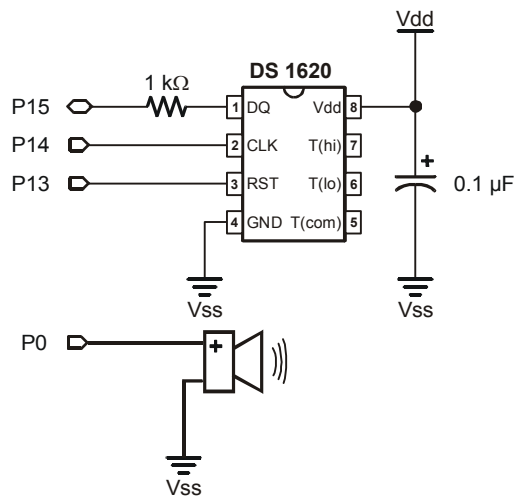
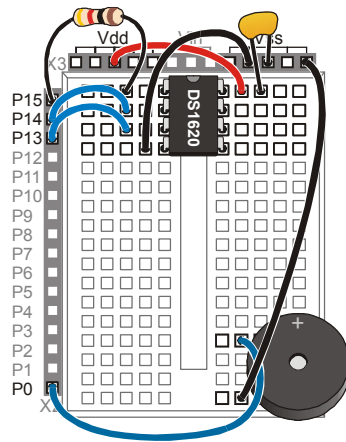

Figure 1-4
Figure 1-5
- ✓ Build the circuit for the DS1620 as shown in Figure 1-4, following the positioning for the wiring diagram shown in Figure 1-5. Please note that the piezo circuit built previously remains in place in the schematic and wiring diagram, as it should on your Board.